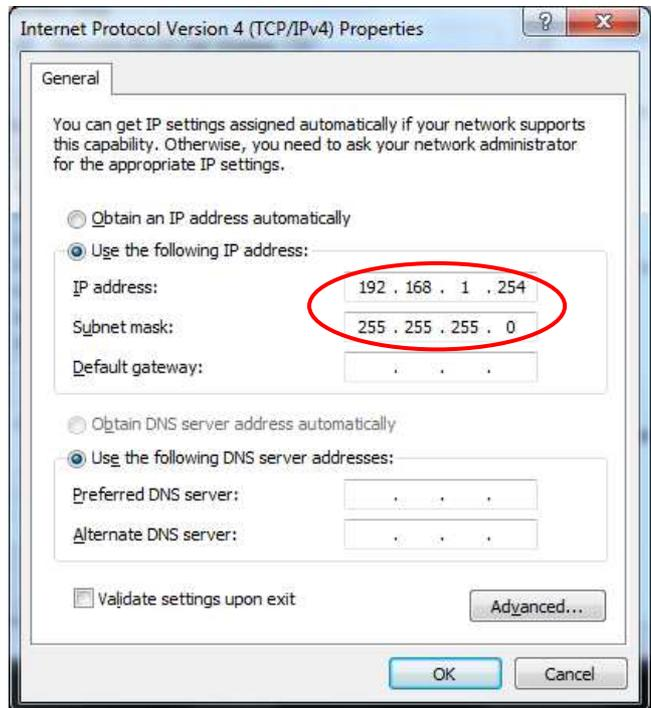

Figure 13: Filling in the IP Address and Subnet mask
7. In the **Internet Protocol Version 4 (TCP/IPv4) Properties** window, select **Use the following IP address** and type in the **IP address** and the **Subnet mask** (see Figure 13).